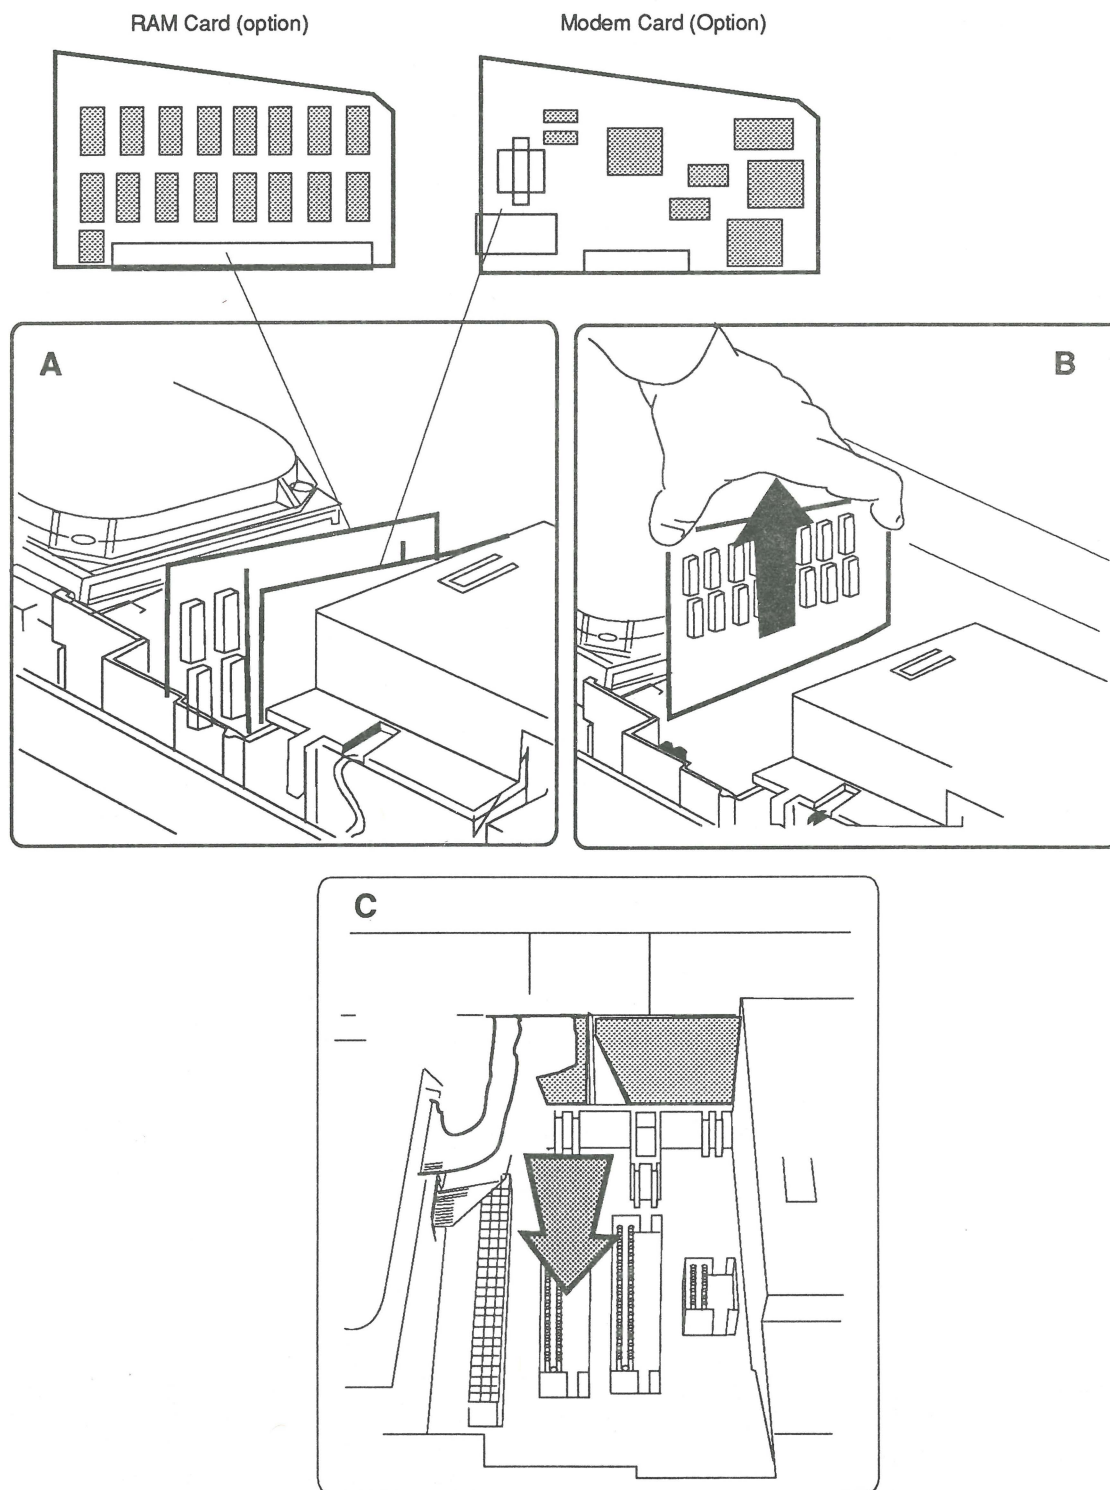

FIGURE 5
2. **Figure 5-A.** Using the figure as a guide, locate the option card you wish to remove.
3. **Figure 5-B.** Lift the card straight up and out of the computer.
1. **Figure 5-A.** Using the figure as a guide, determine which connector to install the option card in.
2. **Figure 5-C.** Position the option card over the correct connector and plug the card in.